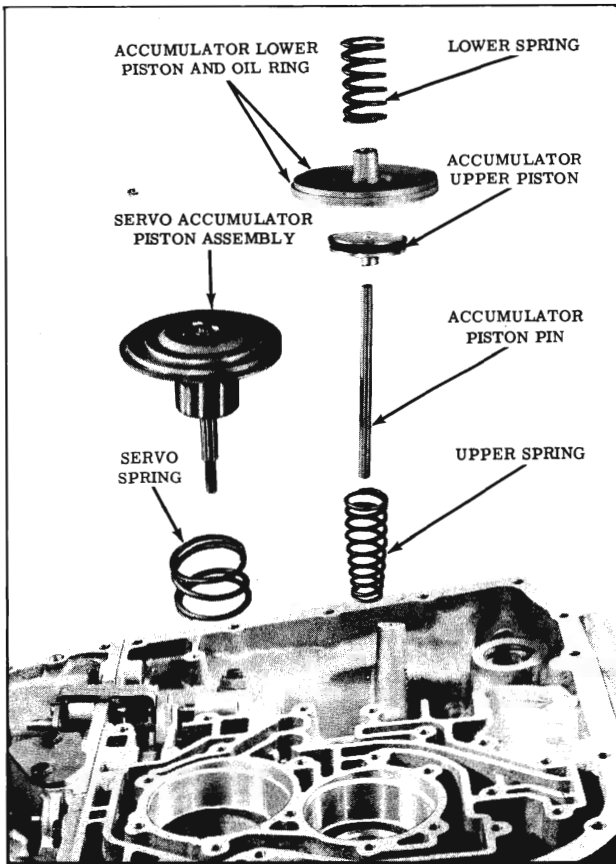

Fig. 3-315 Installing Accumulator
53. Install the upper accumulator spring, pin, upper piston, lower piston, and spring into case. (Fig. 3-315)